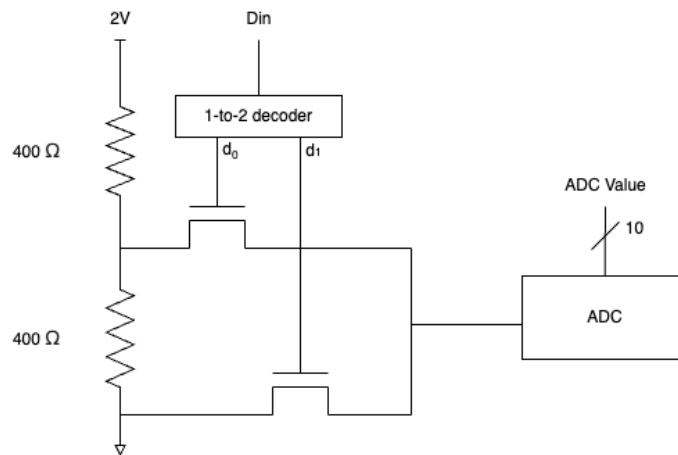

Figure 4: DAC.
4. [4 pts.] Unfortunately, your distance sensor doesn't work. To verify the functionality of your ADC, you connect a 1-bit DAC in place of the sensor, shown in Figure 4. What should the ADC output values be for all possible inputs to the DAC? Please give ADC values in decimal, and show your work.